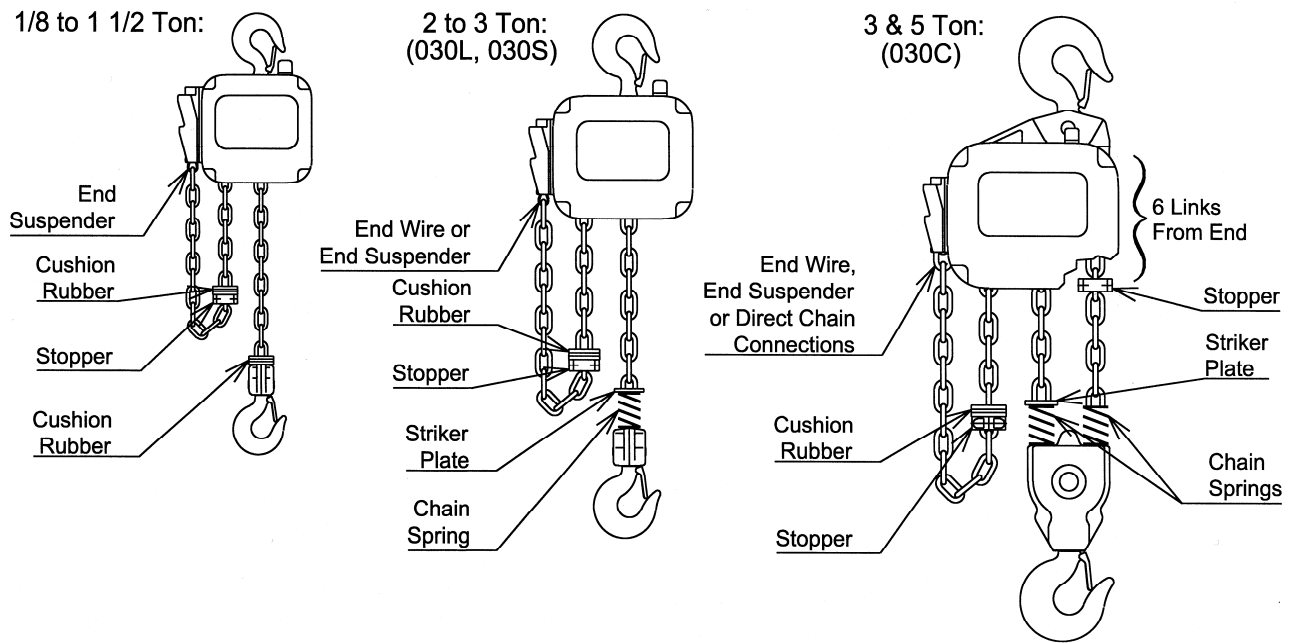

Figure 3-2 Chain Component Arrangement for Hoists with Upper Limit Switch Only.
- 3.2.1 The quantity and location of the chain components including cushion rubbers, chain springs and striker plates depend on the hoist model, capacity and limits switches. Never operate the hoist with incorrect, missing or damaged chain components. Refer to the hoist's nameplate, Table 3-2, and Figures 3-2, 3-3, and 3-4 and ensure that all chain components are in the correct location and properly installed.